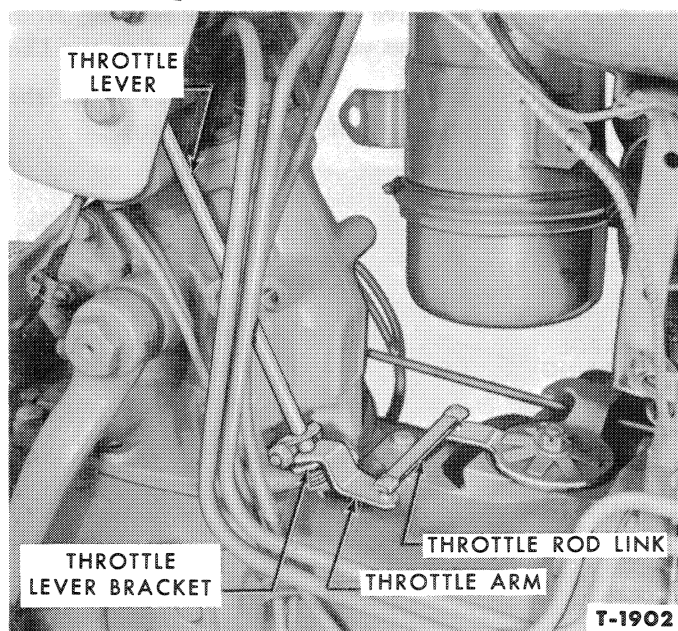

Figure 16—Throttle Linkage Installation
4. Disconnect the throttle rod link from the throttle arm and the throttle lever from the throttle lever bracket, Figure 16.